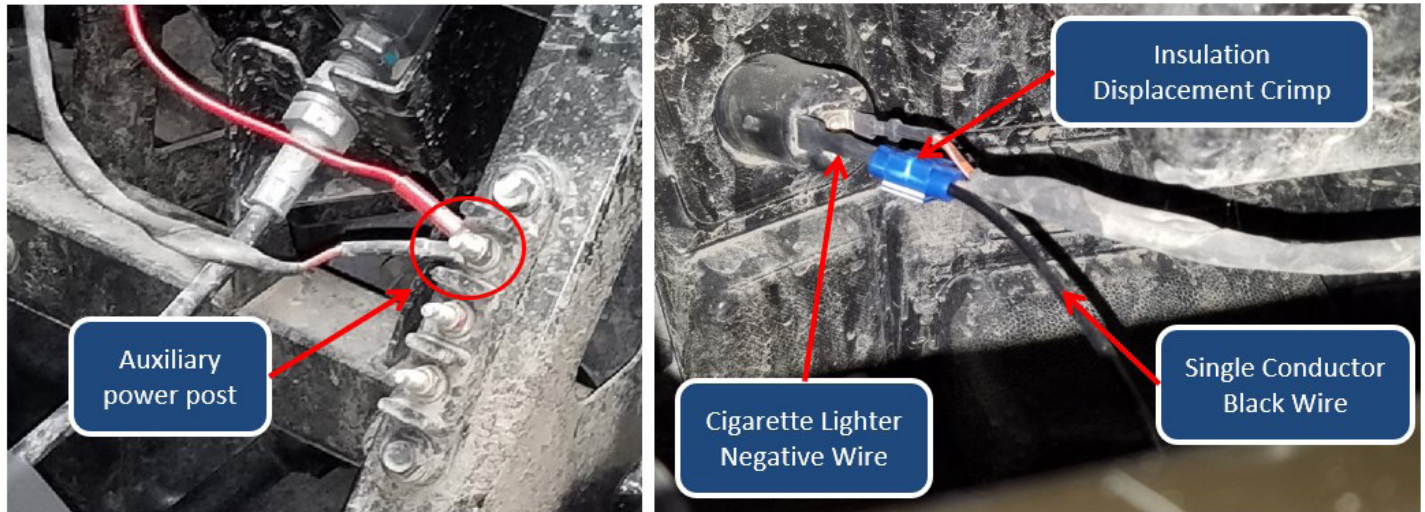

FIGURE 15
38. Attach the Single Conductor Red Wire to the auxillary power post. Using the Blue Insulation Displacement Crimp connect the Single Conductor Black Wire from the Heater Box to the negative wire that connects to the cigarette lighter as shown in **FIGURE 15**.